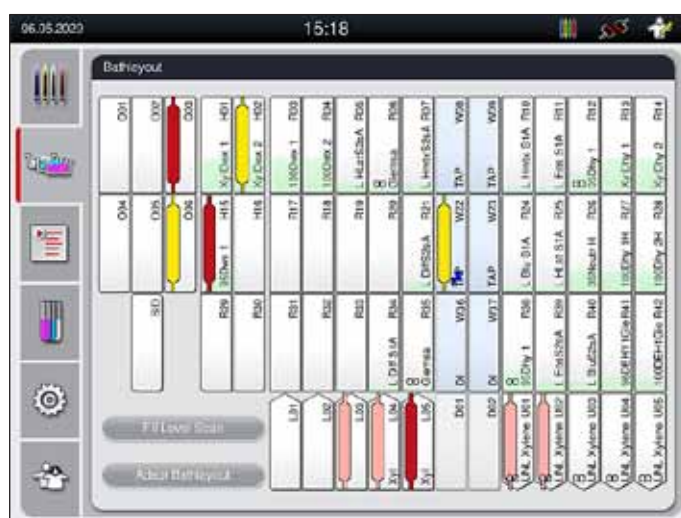

Fig. 85
8. The detected handle color and the assigned program abbreviation are displayed in the bathlayout at the respective station (→ "Fig. 85").
- Bathlayout with station details (→ "Fig. 85").
- In the Process status display, the availability and the selected number of different unload stations is not visible to the user. It is recommended to use the Bathlayout menu for process monitoring (→ "Fig. 85") when using different reagents in the unload stations in order to be able to react early when the unload capacity is reached.